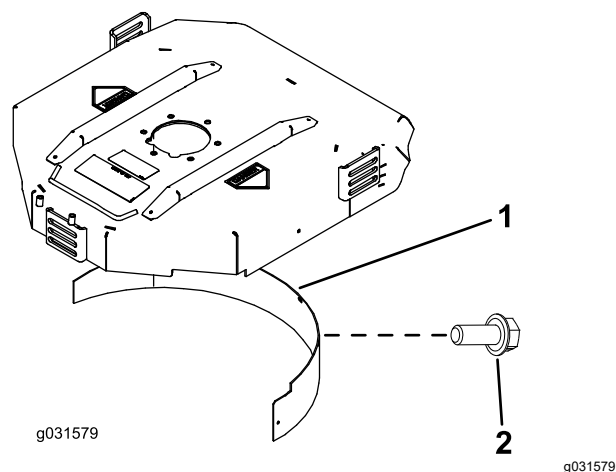

Figure 4
2. Install the mulching baffle in the rear opening and secure it with 5 flange-head bolts (Figure 4).